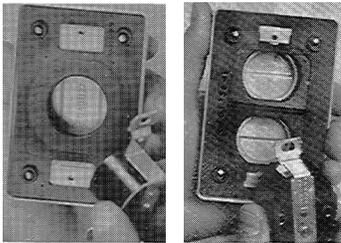

Figure 2
2. Position receptacle into gasket of cover assembly from the back side after removing special screws. (See Figure 2.)